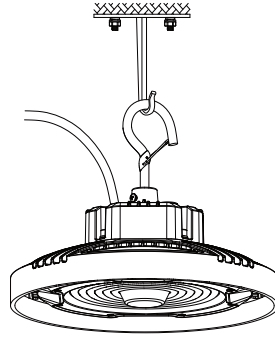

Figure 2
2. Please hang the fixture into the lifting hook or chain and the safety rope will protect it from falling. (Figure 2)